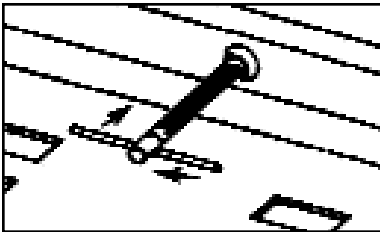

Figure 1
- Clean jack tubes using one of the anchoring pins. (See Figure 1.)